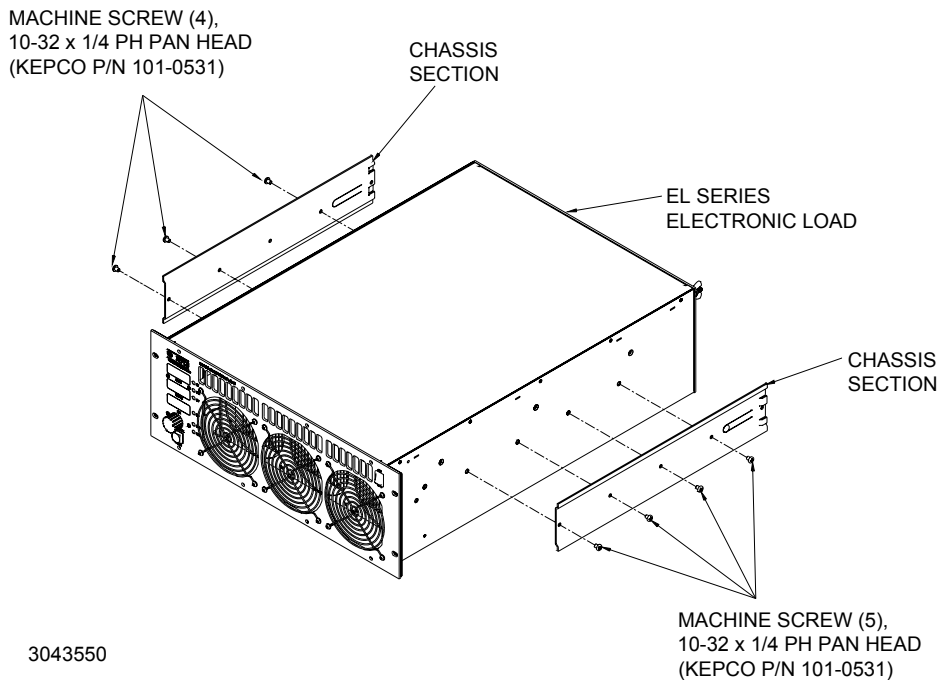

FIGURE 2. INSTALLING CHASSIS SECTION ON ELECTRONIC LOAD CHASSIS
2.2 PROCEDURE (SEE FIGURES 2, 3 AND 4.)
2. Attach two chassis sections of slide to each side of Electronic Load using seven black screws (P/N 101-0531): four on one side and three on the other side (see Figure 2).